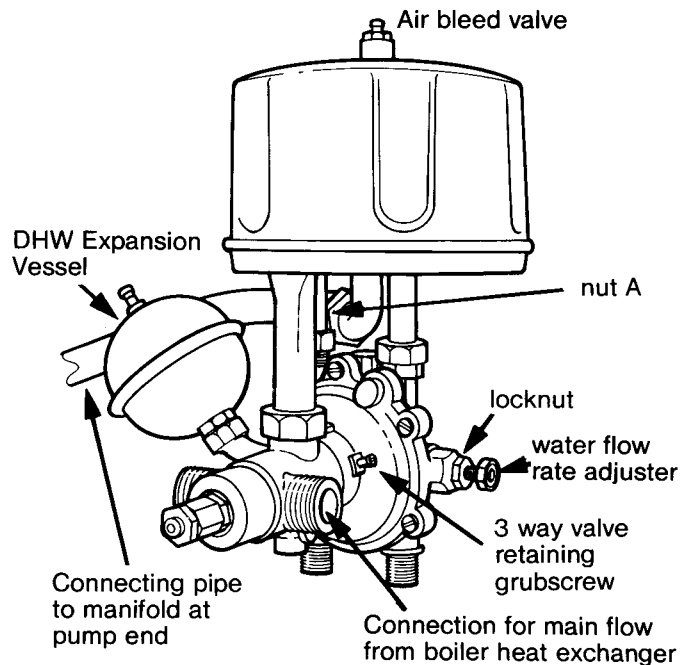

Fig. 45
Refer to figs 45 & 46
8.20 Removal of DHW Expansion Vessel (fig 45)